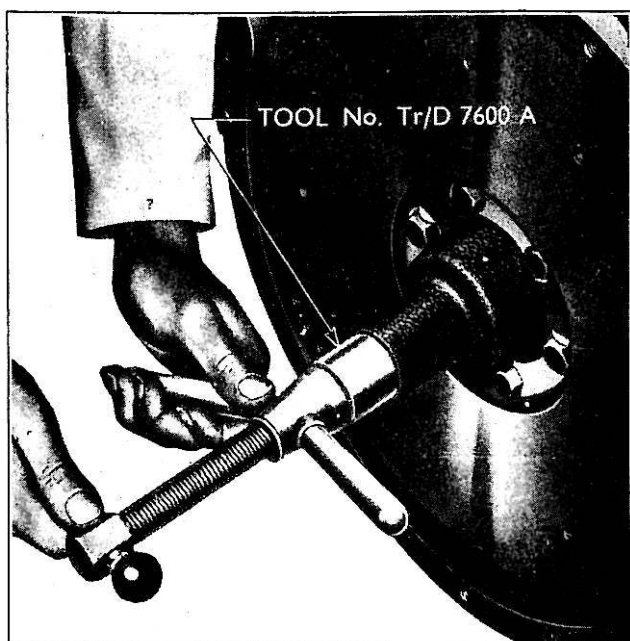

Fig. 150
- 3 Withdraw the clutch pilot bearing from the flywheel, using the bearing remover tool No. Tr/D 7600-A, as shown in Fig. 150.